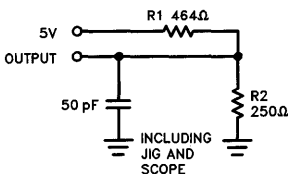
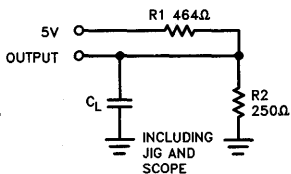

Figure 1a
Figure 1b
- Figure 1a test load used for all parameters except t_{ER} and t_{EA}. Figure 1b test load used for t_{ER} and t_{EA}. All external timing parameters are measured referenced to external pins of the device.